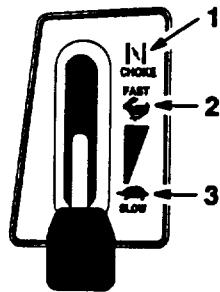

Figure 9
5. Move the throttle lever to "CHOKE" (Fig. 9).
7. After the engine starts, slowly move the throttle lever to "FAST" (Fig. 9). If the engine stalls or hesitates, move the throttle lever back to "CHOKE" for a few seconds. Then move the throttle lever to "FAST." Repeat this as required.
1. Move the throttle lever to "SLOW" (Fig. 9).